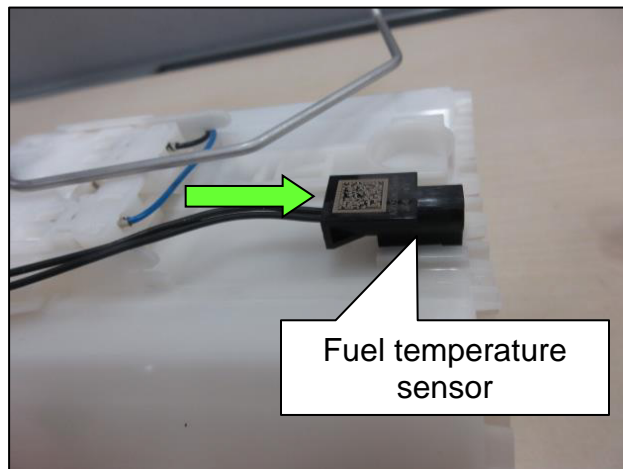
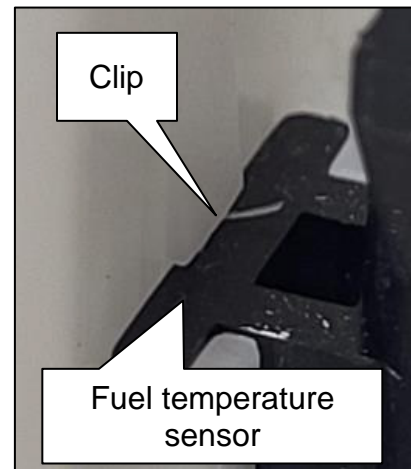

Figure 12
Figure 13
7. Insert the new fuel temperature sensor so that it passes over the clip on the fuel pump body to secure as shown in Figure 12 and Figure 13.